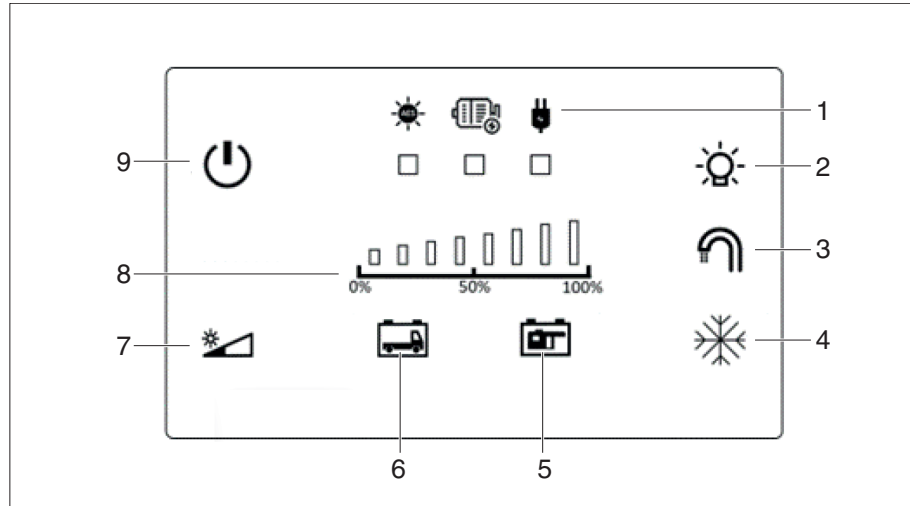

Fig. 58 Control panel D110
The control panel uses signal LEDs (Fig. 58,1) to indicate which power source is being used to charge the living area battery.
The power button (Fig. 58,9) is used to switch the control panel on and off. The lighting is set to medium brightness as standard and can be manually adjusted by pressing the dimming button (Fig. 58,7). Regardless of the configured brightness level, the lighting is dimmed when inactive and reactivated by pressing any button. The most recently set brightness level will be maintained. The dimming button (Fig. 58,7) is always yellow, except in night mode.
The control panel switches to night mode when the dimming button is pressed and held down (Fig. 58,7). Only the dimmer button is illuminated dimly in red to avoid confusion with a switched-off control panel.
If the battery voltage is very low, the control buttons (Fig. 58,5) and (Fig. 58,6) will flash on the control panel.
- Press the control button (Fig. 58,5).
The charging status of the corresponding battery will be displayed on the LED control display (Fig. 58,8).
If the starter battery voltage is very low, the corresponding control button (Fig. 58,6) on the control panel flashes white. If the vehicle is connected to solar or shore power, the electrical box ensures that the starter battery remains charged. In order to fully charge the battery, the vehicle needs to move to permit charging to take place via the alternator.
If the living area battery voltage is very low, the corresponding control button (Fig. 58,5) on the control panel flashes red. If the living area battery is not charged, the battery voltage will sink again. Battery protection engages once the battery reaches a critical value.